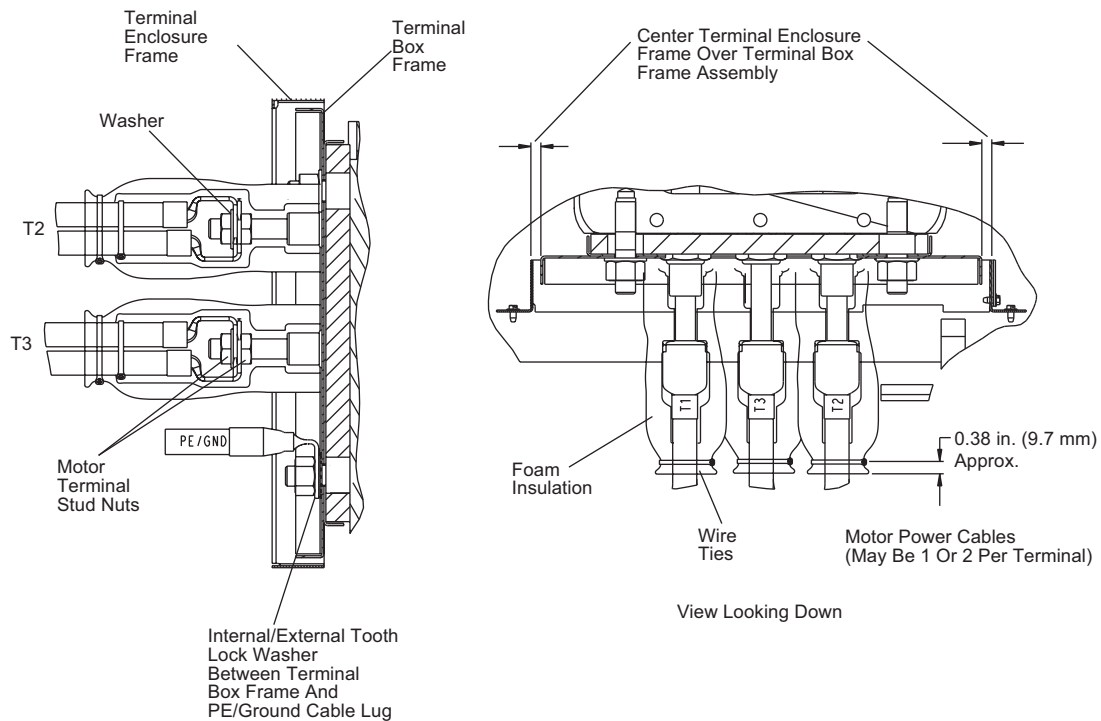

Fig. 36 — Motor Terminal Insulation (Q and R Compressors)
4. There may be 1 or 2 motor power cables per terminal identified as T1, T2 and T3. Position motor end lugs on terminal studs with Belleville washer located against the front terminal lug with the convex side facing toward the front terminal nut. Clinch the 2 cables together with wire ties before tightening terminal nuts. Install front terminal nut finger tight. Hold front terminal nut stationary while tightening rear terminal nut to 45 to 50 ft-lb (61 to 68 N-m). See Fig. 36 and 37.
Locate heat shrink tubing (RCD P/N LF33MM114) over power connections so that they are completely covered and tubing is against motor housing. Shrink into position. Slide foam tubing (3 in. inner diameter closed cell vinyl, neoprene, or nitrile foam) part way over the heat shrink tubing. Apply adhesive for closed cell foam insulation to motor side end of the foam tubing and push tubing the rest of the way over the terminal and against the sheet insulation on the motor side. Secure the opposite end of the foam tubing with a wire tie as shown in Fig. 36 and 37.